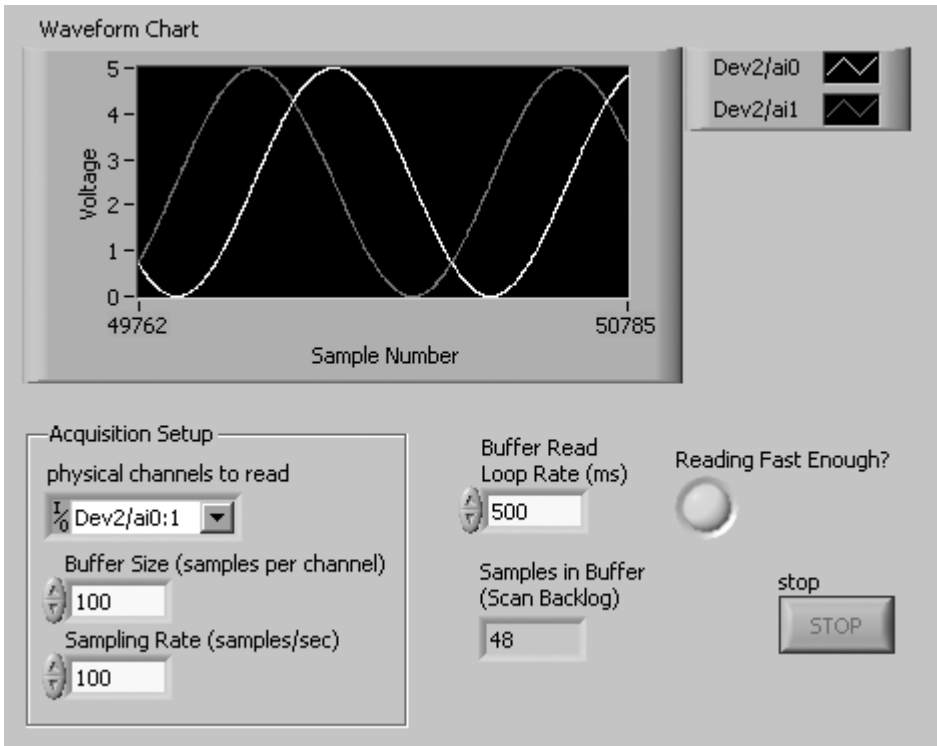

Figure 11.62
1. Build the front panel shown in Figure 11.62.